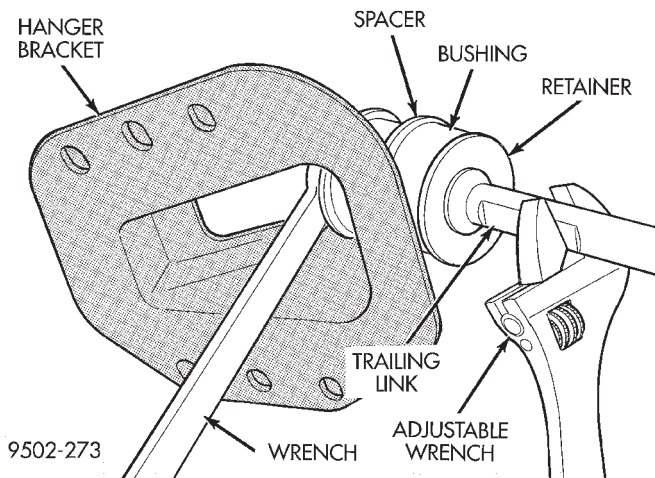

Fig. 49 Separating Trailing Link From Hanger Bracket
(6) Separate the trailing link from the hanger bracket. To separate trailing link from hanger bracket, use a large adjustable wrench on flat of trailing link to turn link while holding nut stationary (Fig. 49).
NOTE: When installing trailing link into hanger bracket, the flat on the trailing link (Fig. 49) must be positioned at the hanger bracket.